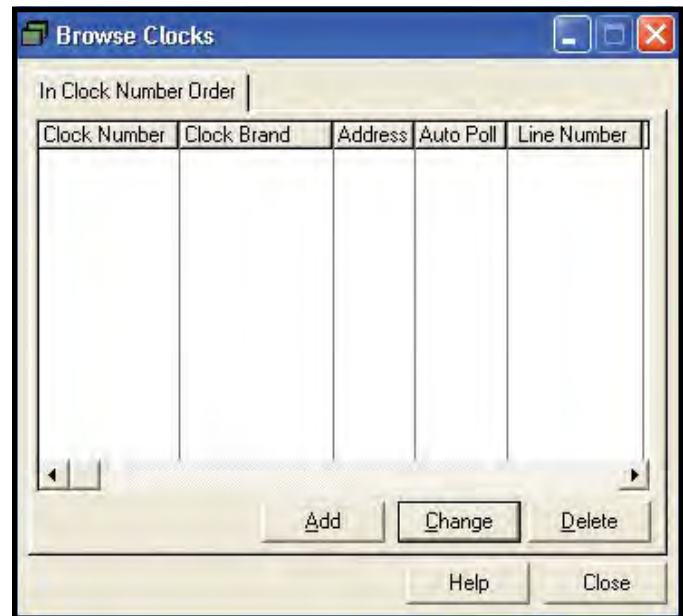

Figure 116. Out-of-the-Box™, Browse Clocks window
- VII. Click the "Add" button in the "Browse Clocks" window (see Figure 116).